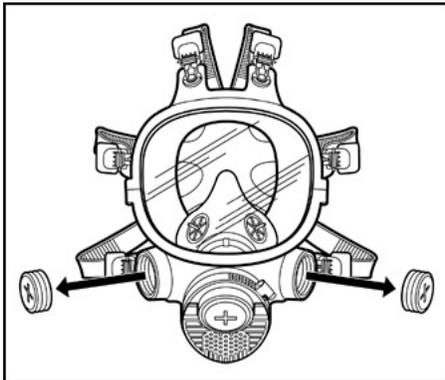

Fig. 9
1. Remove the 3M™ 7890 Plugs, if not already fitted with 3M 701 adapter. (Fig. 9)